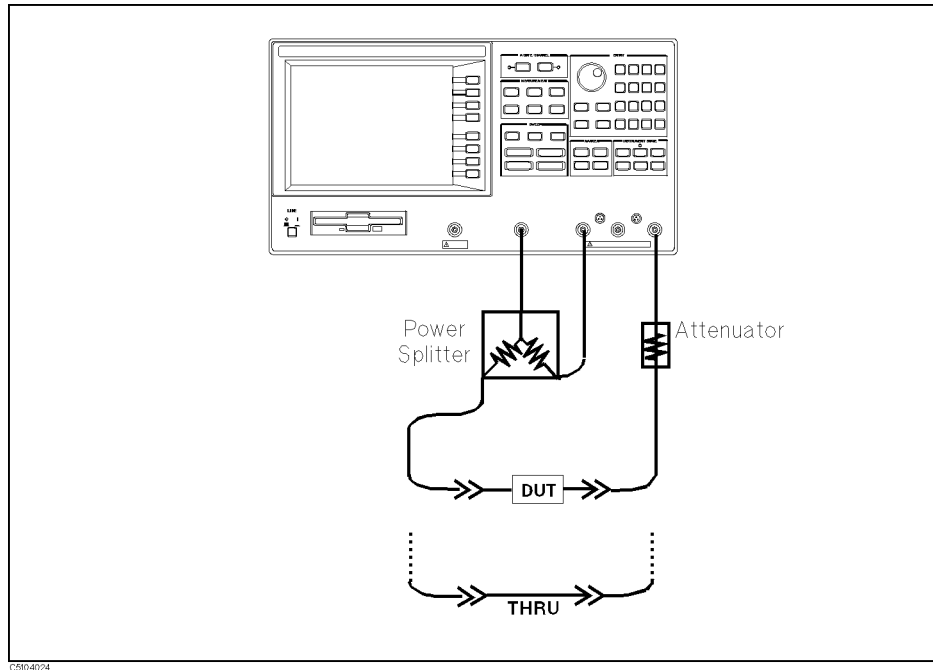

Figure 10-14. Gain Compression Measurement Setup
Set up the 4395A as shown in Figure 10-14.
2. Connect a THRU calibration standard between the measurement cables in place of the DUT (see Figure 10-14).